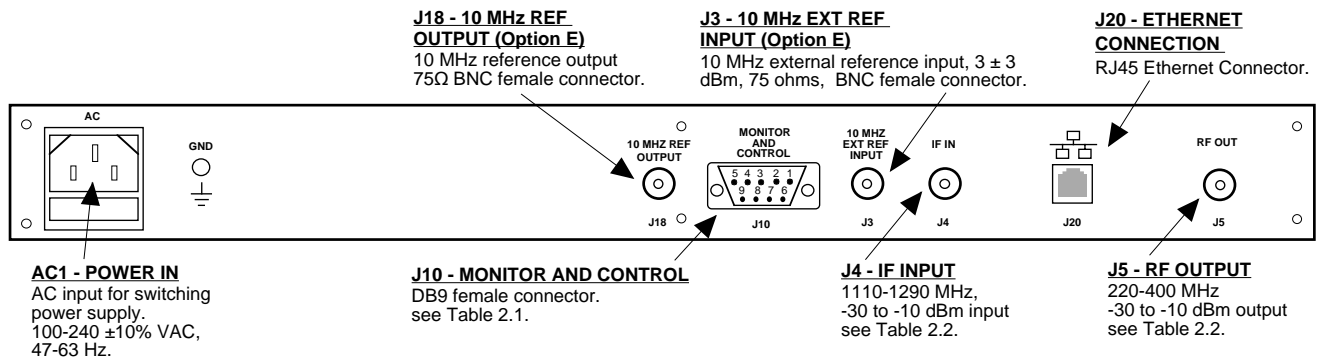

FIGURE 2.1 2083-1304 Rear Panel I/O's
Figure 2.1 shows the input and output connectors on the rear panel.
1. Connect a -30 dBm to -10 dBm signal to IF IN, J2 (Figure 2.1)